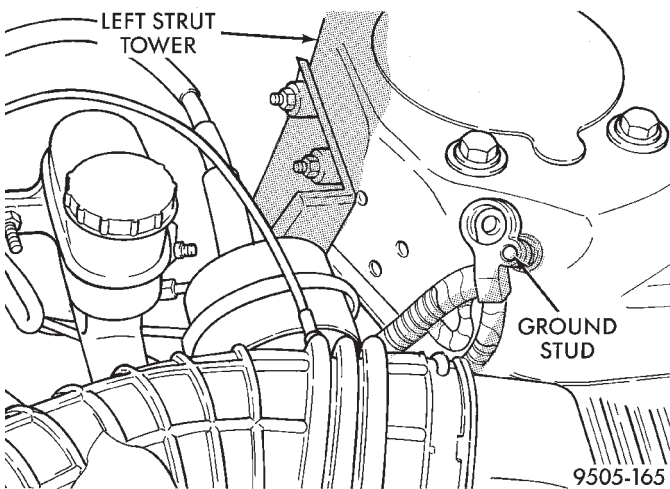

Fig. 117 Correctly Isolated Remote Ground Cable
(2) Correctly isolate remote ground by installing the ground cable insulator on the strut tower ground stud as shown (Fig. 117)